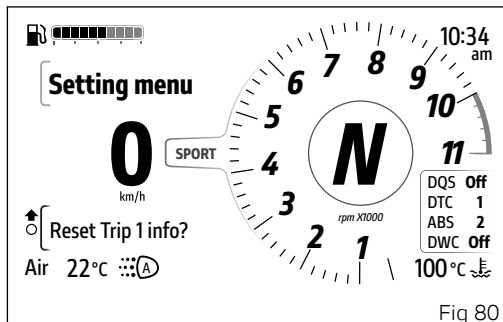

Fig 80
The trip information "Trip 1", "Ø cons.1", "Ø speed 1" and "Trip 1 time", when selected, can be reset by pressing the ENTER button (3): the message "Reset Trip 1 info?" is displayed (Fig 80).